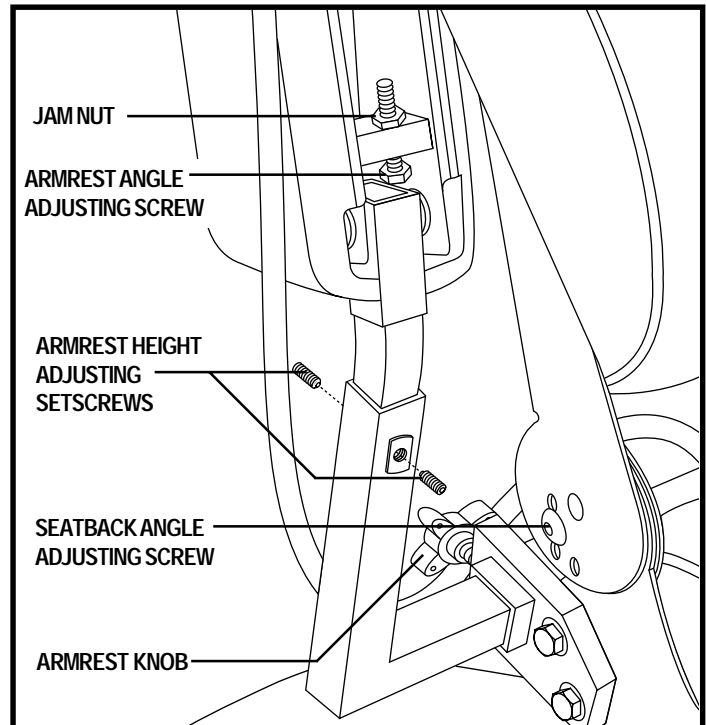

Figure 12. Seatback/Armrest Adjustment
If your power chair is equipped with an adjustable seatback, you can adjust it to four (4) different angles: 90°, 102°, 105°, or 107°. See figure 12.
1. Locate the two armrest knobs on each side of the armrest receiver bracket. See figure 12.
1. Loosen the two setscrews located on the armrest receiver. See figure 12.
1. Lift the armrest straight up so that it is perpendicular to the floor. See figure 12.